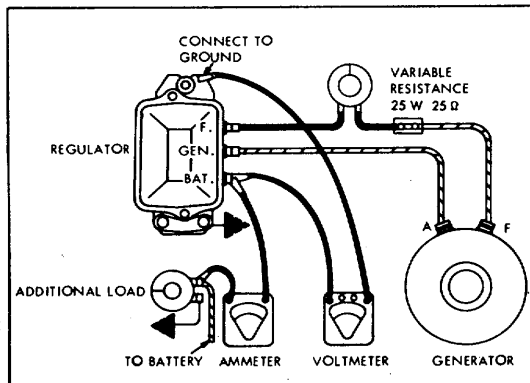

Figure 5-9. Current Regulator Test Setup
(1) Connect ammeter into charging circuit, as in figure 5-9.